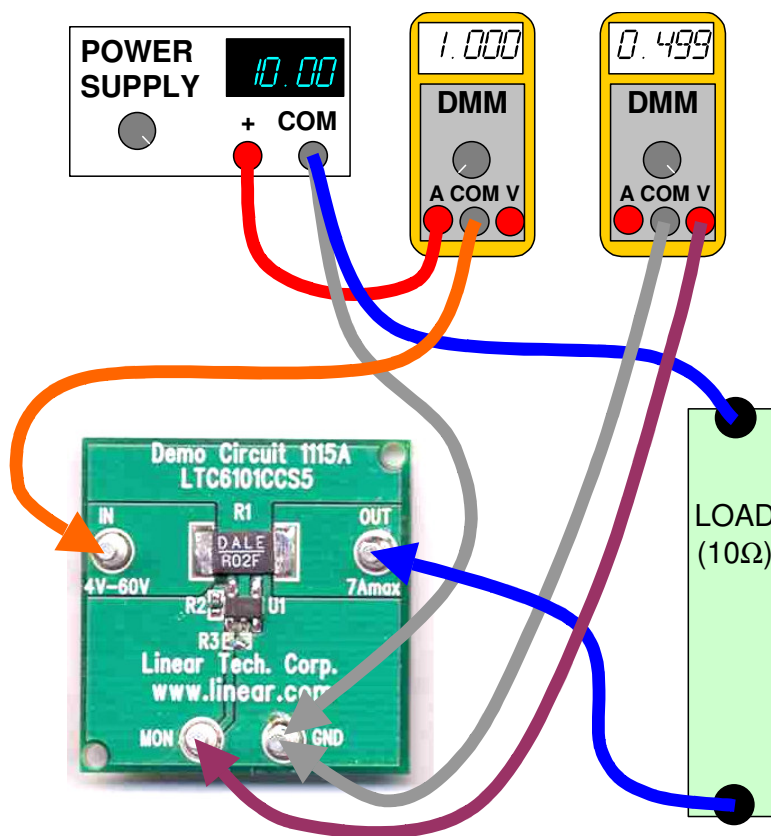

Figure 1. Proper Measurement Equipment Setup
Demonstration circuit 1115 is easy to set up to evaluate the performance of the LTC6101. Refer to Figure 1 for proper measurement equipment setup and follow the procedure below:
1. With power off, connect the power supply positive to IN and the common to GND. This supply should be in the range of 4V to 60V. If this supply is not equipped with an accurate current readout, a DMM (set to measure Amperes) may be connected in series with the supply as shown in Figure 1.